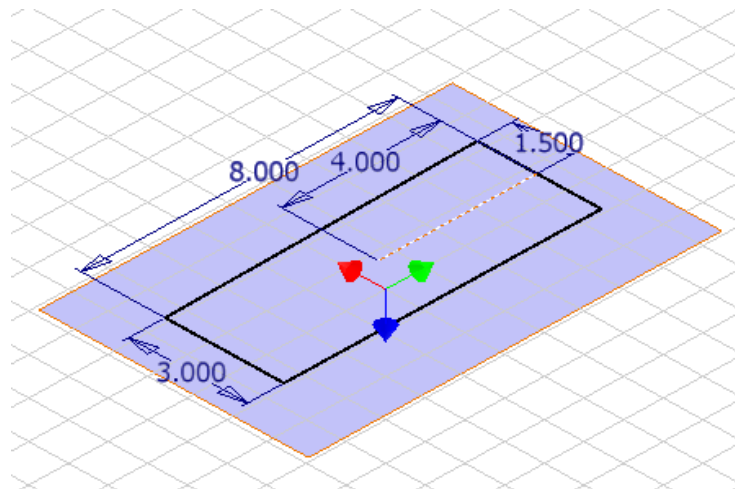

Figure Step 19
**Step 19** On the sketch draw a 8 in by 3 in rectangle as shown in Figure Step 19. Ensure you constrain the sketch.